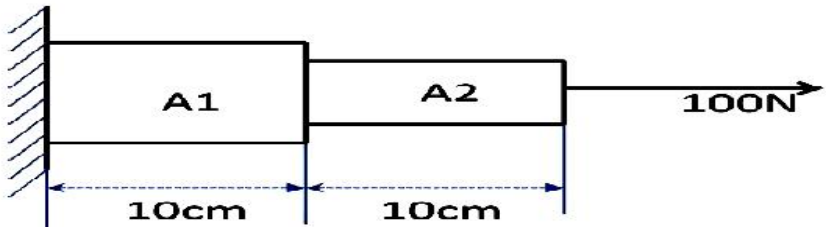

Figure 1
2. Consider a bar shown in Figure 1, Young's modulus  $E = 2 \times 10^5$  N/mm2.  $A_1 = 2$  cm2,  $A_2 = 1$  cm2, and force of 100N is applied. Determine the nodal displacements and element stresses.